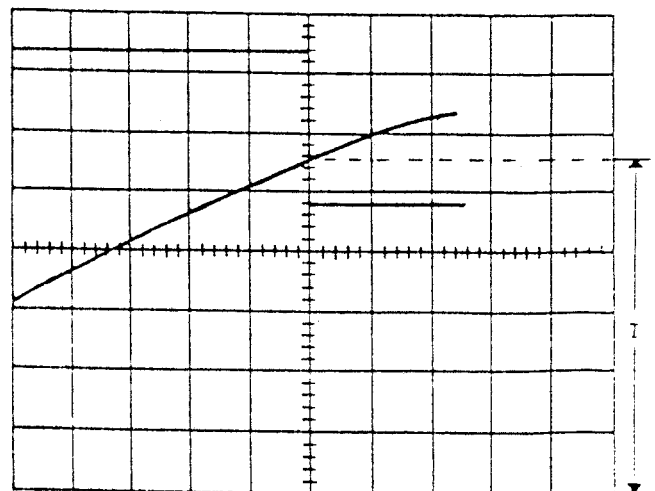

Fig. 6
- (1) Connect CH-1 on the oscilloscope to TP2001 and connect CH-2 on the oscilloscope to TP2003.
- (2) Playback the recorded portion and adjust VR2002 so that "I" portion may become $2.6 \pm 0.05V$ as shown in Fig. 6.